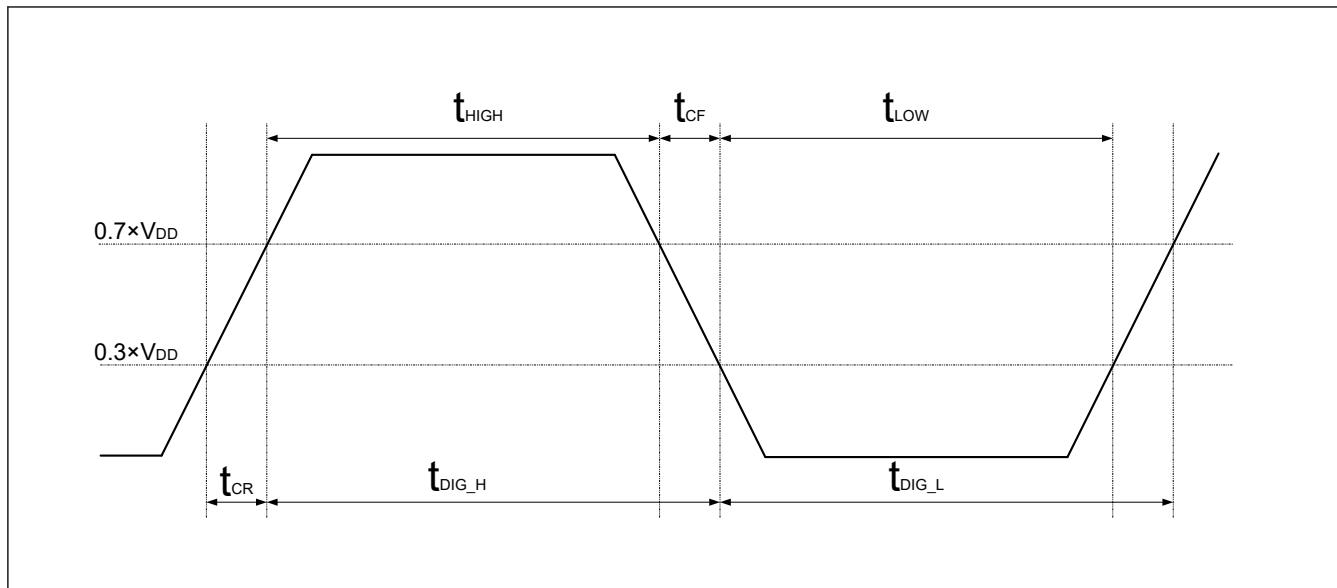

Figure 2.34  $t_{DIG\_H}$  and  $t_{DIG\_L}$
2.  $t_{DIG\_L}$  and  $t_{DIG\_H}$  are the clock Low and High periods as seen at the receiver end of the I3C Bus using VIL and VIH (see Figure 2.34)